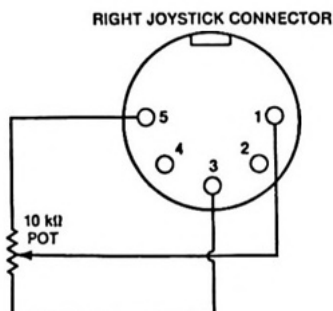
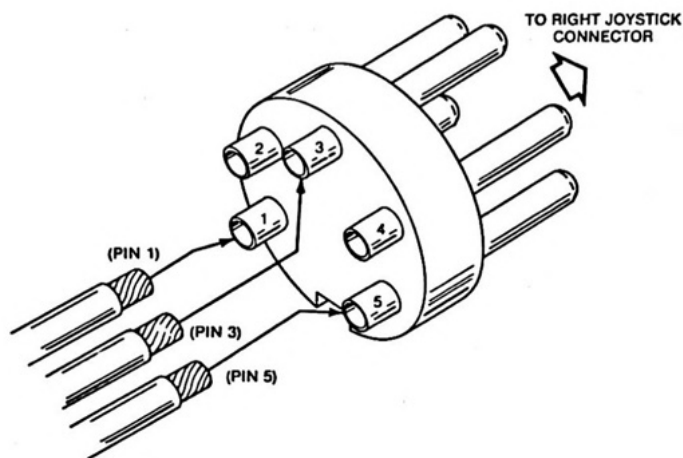

Figure 6-22
Figure 6-23
Diagrams (Figs. 6-22 and 6-23)
Step 1 — Turn your computer off and connect a 10,000-ohm potentiometer to the *right* joystick input connector as shown in Fig. 6-22. To make contact with the connector pins, you can insert a small pin or wire into each respective connector pin. A doubled-over $\frac{1}{2}$ -watt resistor lead wire will do the job. Then, attach the potentiometer leads to the inserted wire leads. An alternative method is to construct a 5-pin male DIN connector plug as shown in Fig. 6-23. Once constructed, the plug can be easily inserted into the right joystick port of the Color Computer to provide a convenient means of